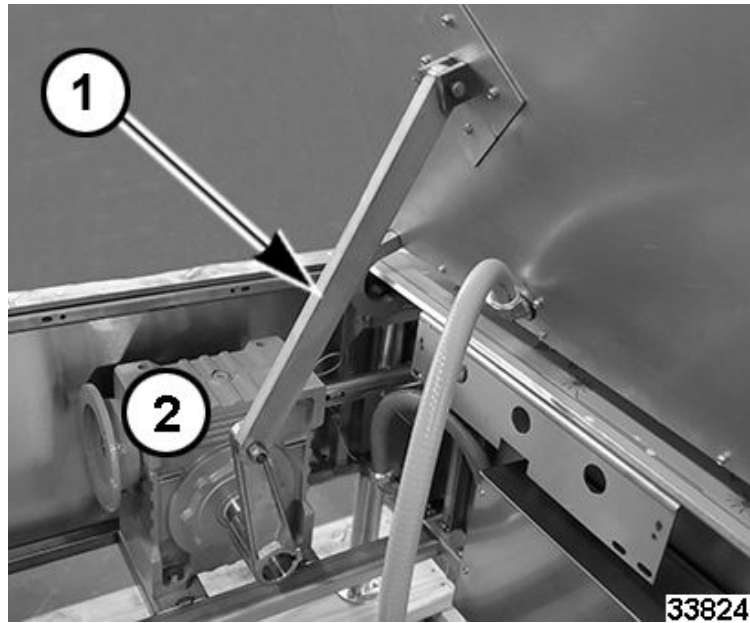

Fig. 31
- Item 1 in Fig. 31 is lift arm shown in up position.
- Item 2 in Fig. 31 is the gear reducer.